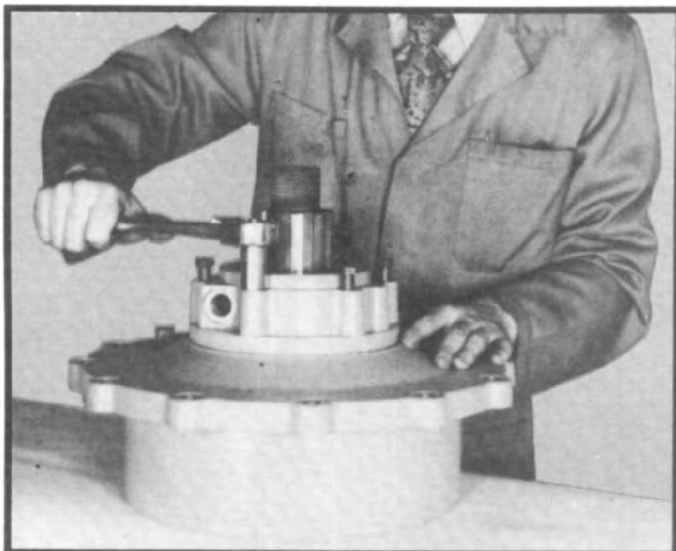

Fig. 62 Gear and Transmission • 906 W. Gore St. Orlando, FL 32805 • 1 (877) 776-4600 / (407) 872-1901
3.5 Remove six capscrews holding seal carrier to planetary carrier cap. Tap seal carrier to loosen and remove. (See fig. 62.) If the seal is to be replaced remove the seal from the seal carrier. Removal procedure will damage the seal and removal should not be attempted unless replacement of the seal is planned.